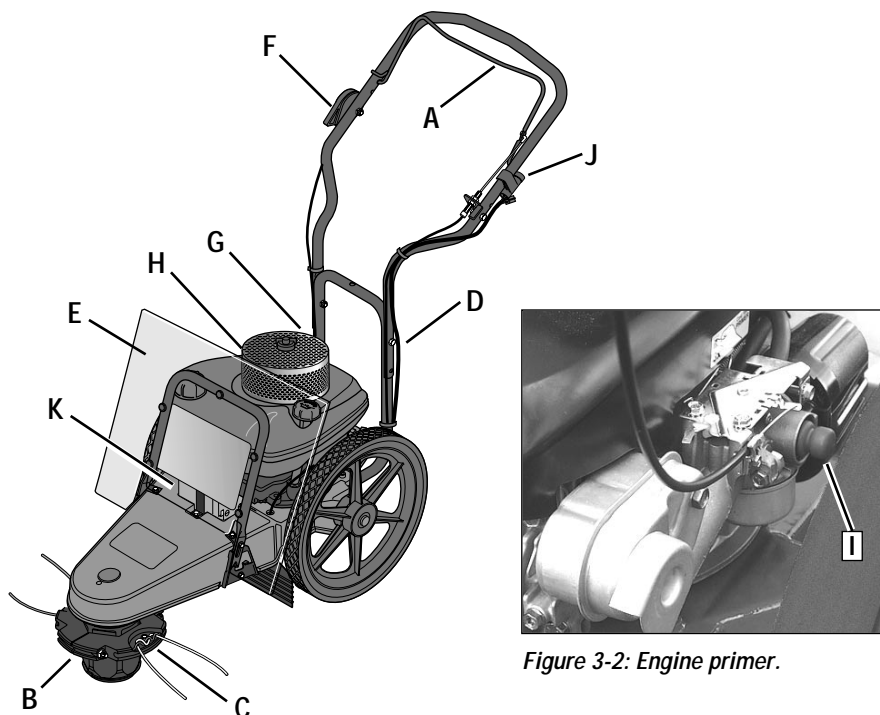

Figure 3-1: Features and controls (electric start model shown).
Pull the control bail (A, Figure 3-1) up against the handlebar (engage bail) to start rotation of the trimmer head. Let go of the control bail (disengage bail) to stop the trimmer head.
The trimmer head (B, Figure 3-1) is adjustable to an infinite number of height settings from 1-1/2" -to- 4-1/2".
The trimmer lines are secured to line holders (C, Figure 3-1). Replacing the trimmer lines is a simple procedure (see *Changing Trimming Lines* in Section 5).
The handlebar (D, Figure 3-1) has two height settings (see *Adjust Handlebar Height* in the *Operation* Section).
The plastic debris shield (E, Figure 3-1) protects the engine from all manner of debris. The shield tilts forward for access to the engine.
Use this lever (F, Figure 3-1) to regulate engine speed and to stop the engine. The throttle settings are shown on the decal next to the lever.
The recoil starter (G, Figure 3-1) is located at the rear of the engine and is used to pull start the engine.
The engine debris guard (H, Figure 3-1) protects the engine from accumulations of cut materials that can clog the engine cooling passages. See the *Maintenance* Section for information on servicing this important guard.
On electric start models, the keyswitch (J, Figure 3-1) is used to start the engine. The keyswitch does not have an engine stop position. Use the Engine Throttle Control Lever (F) to stop the engine.
On electric start models, the battery (K, Figure 3-1) will crank the engine starter motor when the keyswitch is turned to the start position. Do not crank engine longer than five (5) seconds per each starting attempt.
1. Lift and tilt plastic debris shield (E, Figure 3-1) forward.